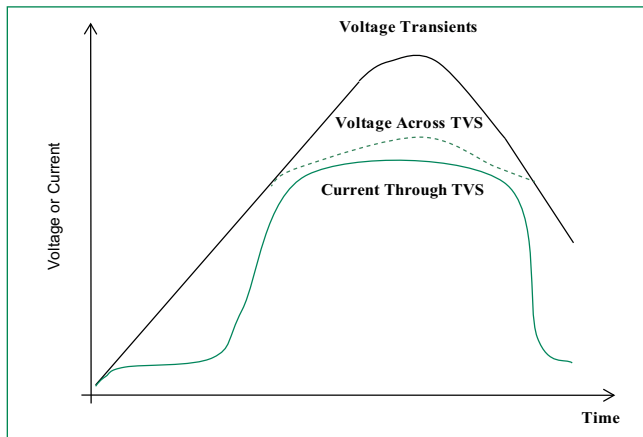

Figure 2 -
- Surge current waveform per 10/1000 μs exponential wave and derated per Fig.2.